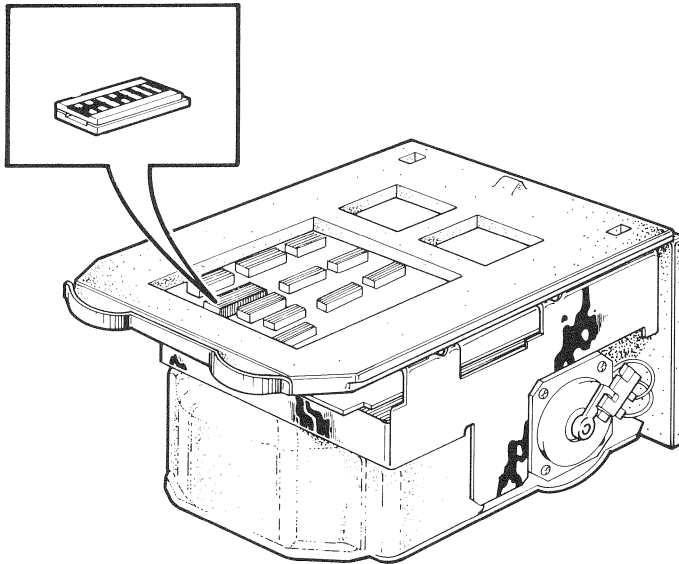

Figure 5-3 RD51 Disk Drive and Shunt Jumper
5.3.1.1 RD51 – Table 5-2 lists the read/write board jumper setting for the RD51 DIP shunt jumper (Figure 5-3).